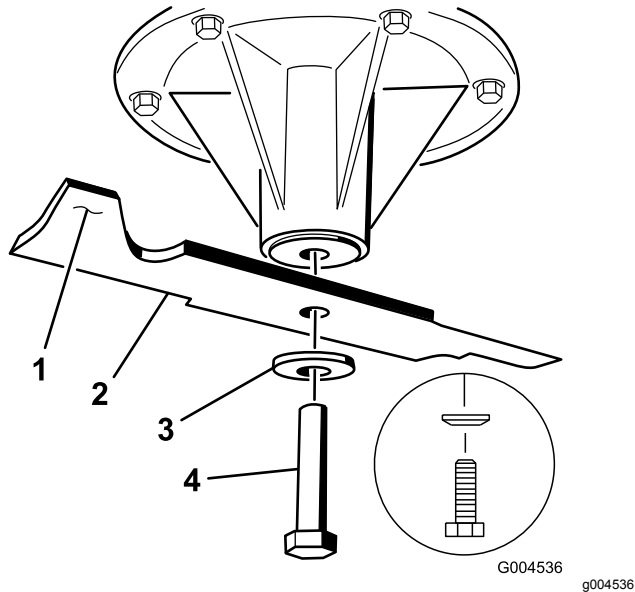

Figure 101
1. Install the blade onto the spindle shaft (Figure 101).
2. Install the spring disk and blade bolt (Figure 101).